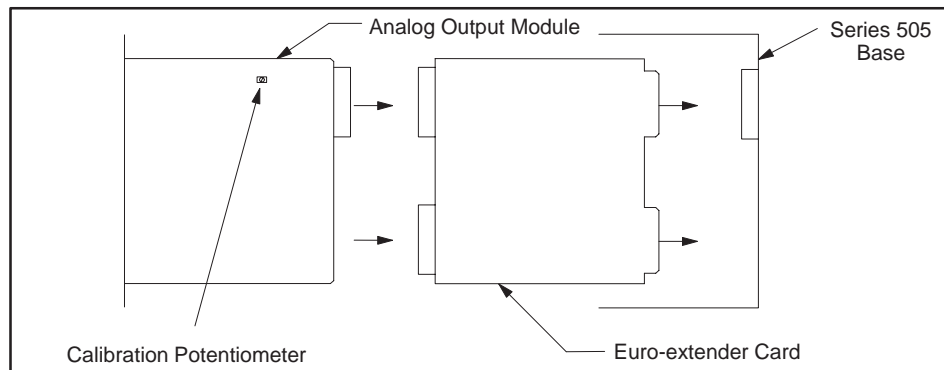

Figure 3-3 Euro-extender Card Assembly for Analog Output
Insert the module into the extender card (Figure 3-3). This provides access to the calibration potentiometer.
10. Locate the calibration potentiometer on the circuit board (Figure 3-3). Using the channel which has an output closest to the mean output value, adjust to 20.000 mA at 25° C by using the calibration potentiometer.